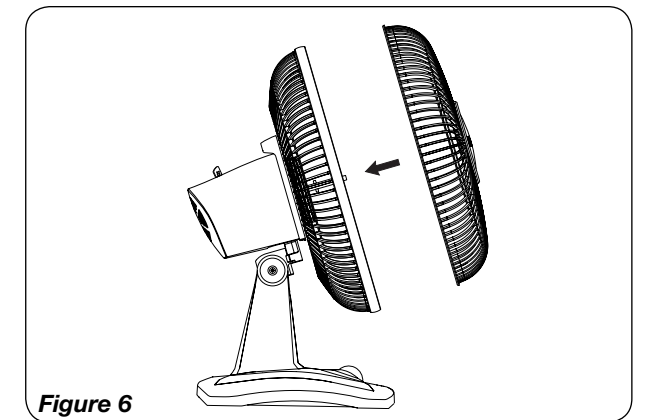

Figure 6
7. With *Fan Head* tilted back and centered, align *Ornament of Front Grill* so it is horizontal. Insert bottom of *Front Grill* into *Rear Grill*. Tab at the bottom of *Rear Grill* should be between two *Spokes* of *Front Grill*. Snap *Front* into *Rear* beginning at the top and working down both sides. **NO GRILL CLIPS ARE NEEDED FOR ASSEMBLY.** (Figure 6)